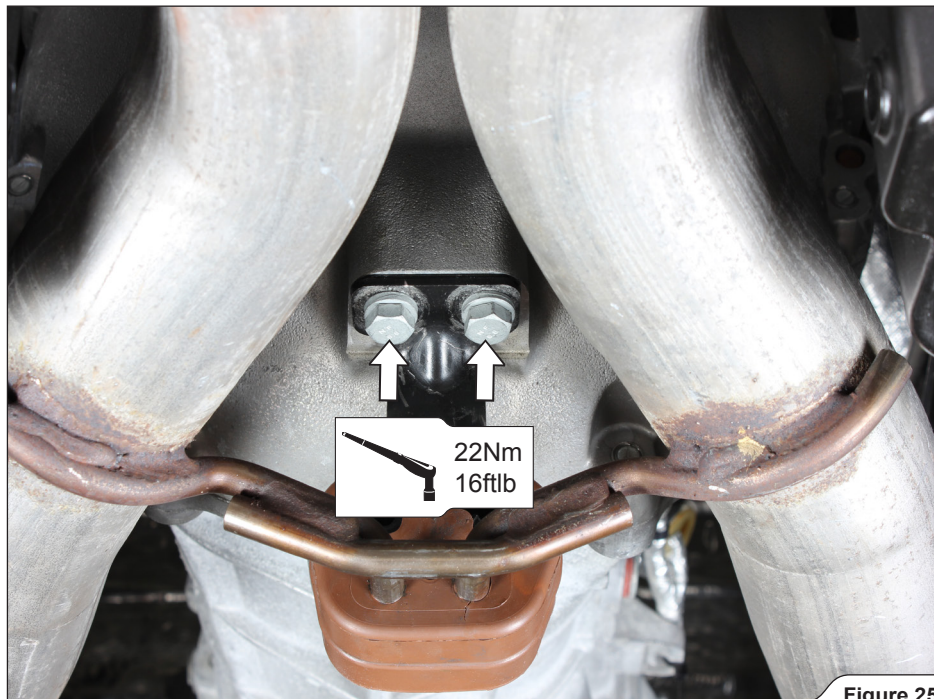

Figure 25
6. Attach the link pipes bracket onto the transmission and tighten the mufflers' rubber brackets onto the chassis (**Figure 25, 26**).